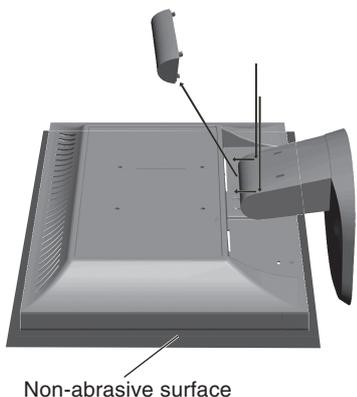

Figure R.1
2. Remove the hinge cover (**Figure R.1**).
3. Place monitor face down on a non-abrasive surface (**Figure R.1**).
1. Place monitor face down on a non-abrasive surface (**Figure R.1**).